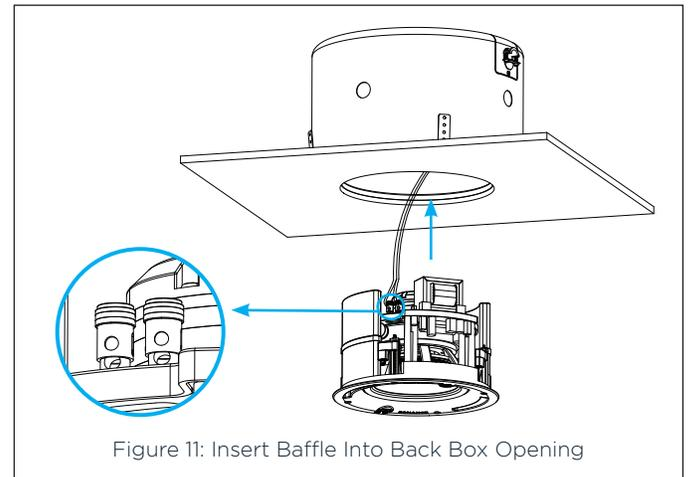

Figure 11: Insert Baffle Into Back Box Opening
- Once drywall is installed, the PS-C85RTBF loudspeaker baffle assembly can be inserted into the back box opening. First, join the wiring harness between the back box and the speaker baffle. Connect the stripped wire to the spring loaded wire terminals on the back of the speaker baffle, connecting the black wire to the black terminal and the red wire to the red terminal (see Figure 11).